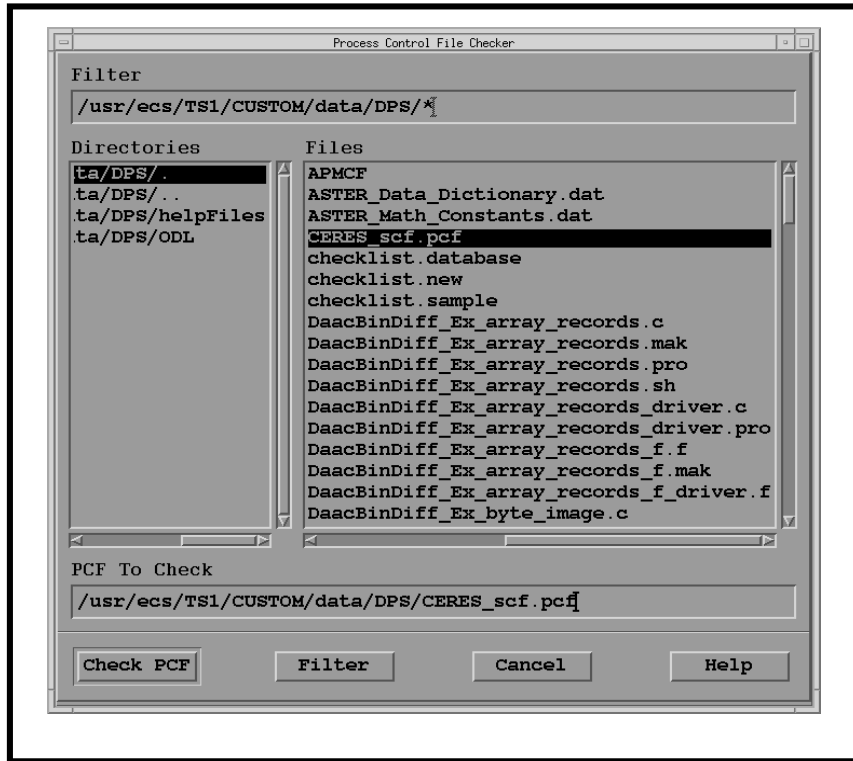

Figure 6. Process Control File Checker GUI
- The Process Control File Checker GUI (Figure 6) is displayed.